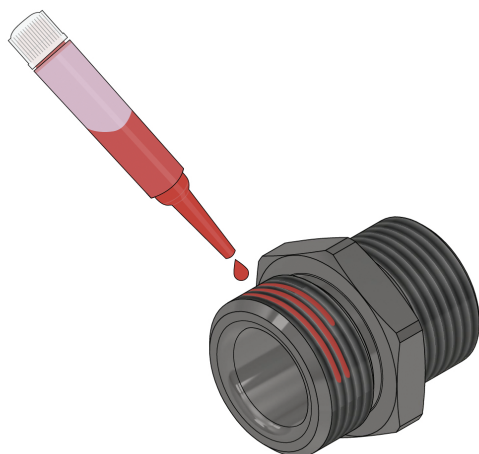

Figure 3 - Apply Thread Locker to the Short End of the Filter Screw
2. Apply the high-strength thread locker to the threads on the **SHORT END ONLY** of the HSC-10XX filter screw as shown in Figure 3.